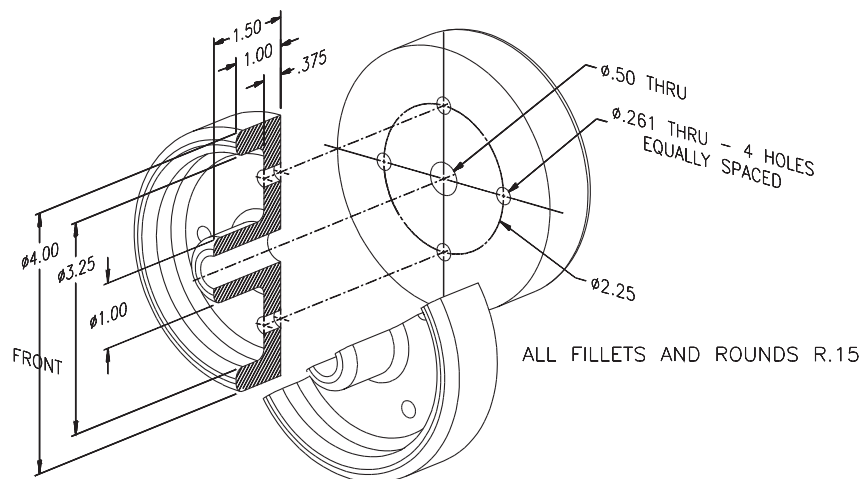

Fig. 11-15
4. The two identical hubs shown in Fig. 11-15 are meant to be mounted back-to-back in an assembly. Draw the front view of one hub. Before drawing the four small holes, use the **UNDO** command to mark the current location in the drawing. After completing the hub, use **UNDO** to replace the four holes with eight new ones, equally spaced around the circumference. Use a new hole diameter of **.284** and a new center line diameter of **2.50**.